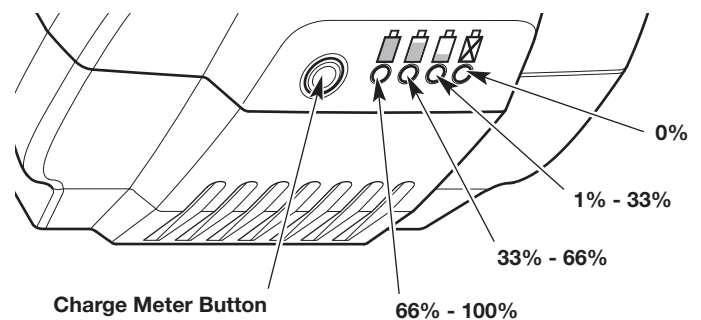

Fig. 17
1. Press the charge meter button (Fig. 17).
2. One or more of the charge meter lights should illuminate (Fig. 17). The number and color of the lights will indicate the current battery charge level: